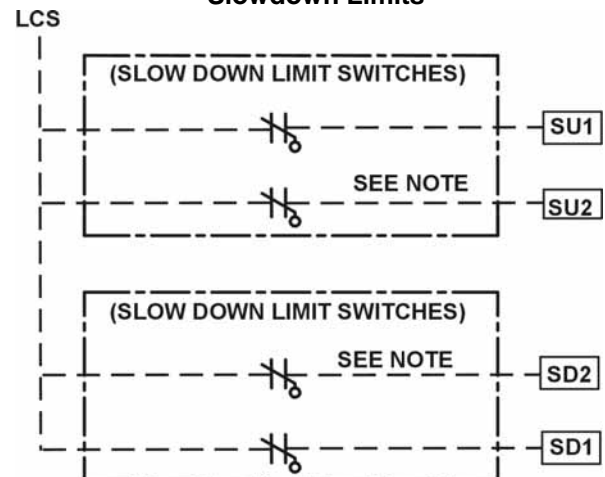

Figure 1-20
**Terminal Slowdown Switches:** These slowdown switches are also used at the bottom and top of the hoistway. The number of switches depends on the elevator's contract speed. [See Table A.] These switches wire directly to the controller. [See Figure 1-20 and Wiring Diagrams for further details.]